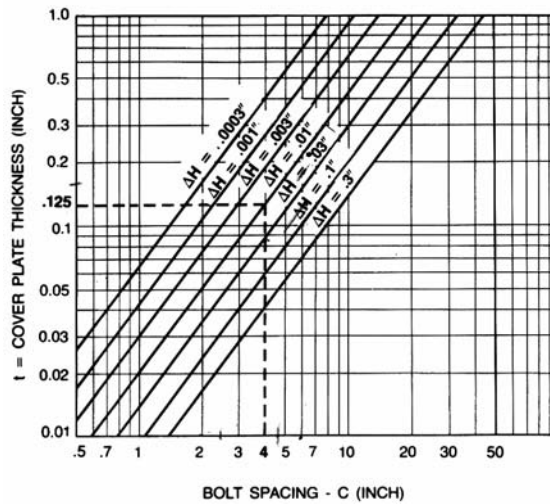
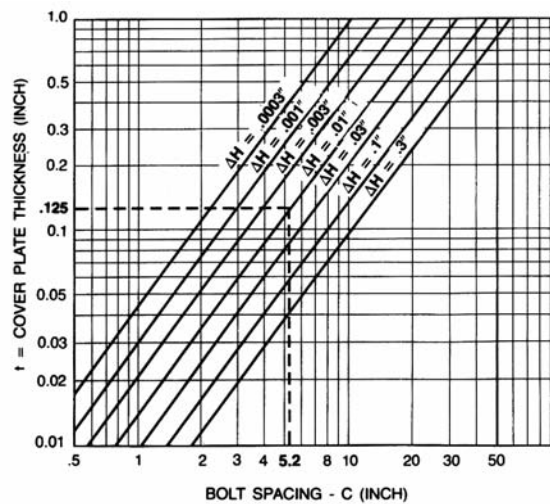

Figure 7-14, Bolt Spacing - Aluminum Cover Plate
Figure 7-15, Bolt Spacing - Steel Cover Plate
(Reference Figures 7-14 and 7-15)
Figures 7-14 and 7-15 show sets of curves representing deflection as a percentage of gasket height (ΔH) for aluminum and steel plates respectively. The ΔH value is the difference between the maximum and the minimum gasket height under compression (reference Figures 7-5 through 7-8). Knowing the cover plate thickness and the gasket differential (ΔH), the bolt spacing can be easily determined. Since the P_{min} for both figures has been selected as 20 psi, a correction factor is provided for P_{min} values from 10 through 50 psi (see Table 7-8).
EXAMPLE, assume a design which uses a steel cover plate thickness of .125" with an anticipated gasket variation of .010" (ΔH) under a minimum pressure (P_{min}) of 20 psi and a maximum pressure (P_{max}) of 60 psi. Figure 7-15 shows a bolt spacing for steel at the stated pressure range of 20 to 60 psi to be 5.2 inches. For the same conditions using an aluminum plate, the bolt spacing is 4.0 inches (see Figure 7-14). The charts can also be used in reverse. For example, when it is desired to limit the number of fasteners for easier disassembly or removal of a cover plate. Select the desired bolt spacing and gasket differential (ΔH) to determine the required cover plate flange thickness.
EXAMPLE, assume a 10 inch bolt spacing is desirable and a maximum gasket differential (ΔH) of 0.03" is anticipated. The questions which need to be answered are (1) what is the necessary thickness of the cover plate flange and (2) what gasket materials are most suited for that application. Referring to Figure 7-14 (aluminum), draw an imaginary line from the point at the bottom of the chart which represents a 10 inch bolt spacing to the point representing H0.03" at the intersect of the 10 inch bolt spacing line and $\Delta H=.03$ ", draw an imaginary horizontal line to the left scal (coordinate) to find the minimum thickness of the cover plate flange (t). In this case, $t=.3$ inch. The larger the ΔH values for the specific compression conditions established by the pressure range of 20 to 60 psi, the softer and more resilient are the gaskets needed to satisfy the large variations in joint unevenness caused by flange bowing.